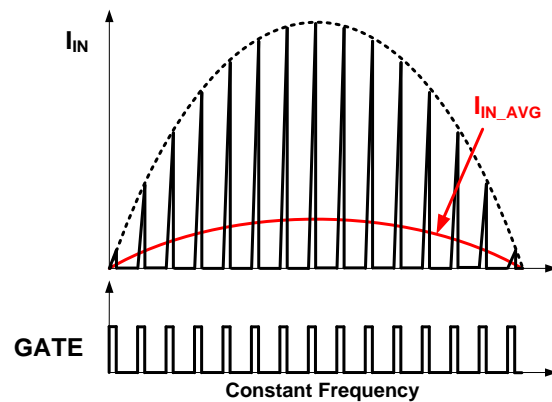

Figure 18. Input Current and Switching
In a conventional boost converter, Boundary Conduction Mode (BCM) is generally used to keep input current in phase with input voltage for Power Factor (PF) and Total Harmonic Distortion (THD). However, in flyback / buck boost topology, constant turn-on time and constant frequency in Discontinuous Conduction Mode (DCM) can implement high PF and low THD, as shown in Figure 18. Constant turn-on time is maintained by an internal error amplifier and a large external capacitor (typically $>1 \mu$ F) at the COMI pin. Constant frequency and DCM operation are managed by linear frequency control.